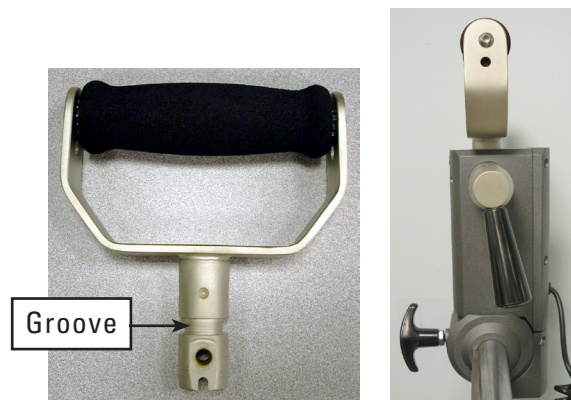

Figure 10-6. Insert the Attachment
- Step 5. Locate the groove on the shaft of the attachment you wish to insert; the retractable handle pin will line up with this groove. Insert the attachment and rotate it to the desired supination/pronation position (Figure 10-6).